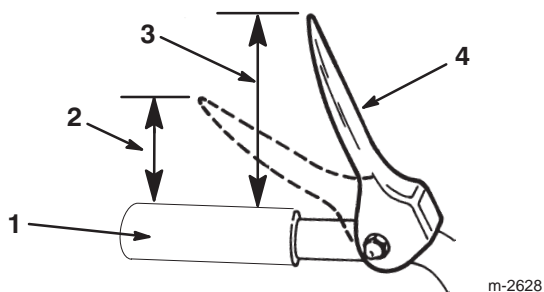

Figure 11
5. Check the distance between the top of the handgrip and the bottom of the auger/impeller drive control lever. The distance should be approximately 4 inches (10.2 centimeters) as shown in Figure 11.
Note: The amount of force needed to compress the lever increases noticeably when you remove the slack from the auger/impeller drive belt (approximately one-half of the lever movement). The adjustment is correct when the force *begins* to increase and the distance between the top of the handgrip and the bottom of the auger/impeller drive control lever is 2 inches (5 centimeters) as shown in Figure 11.